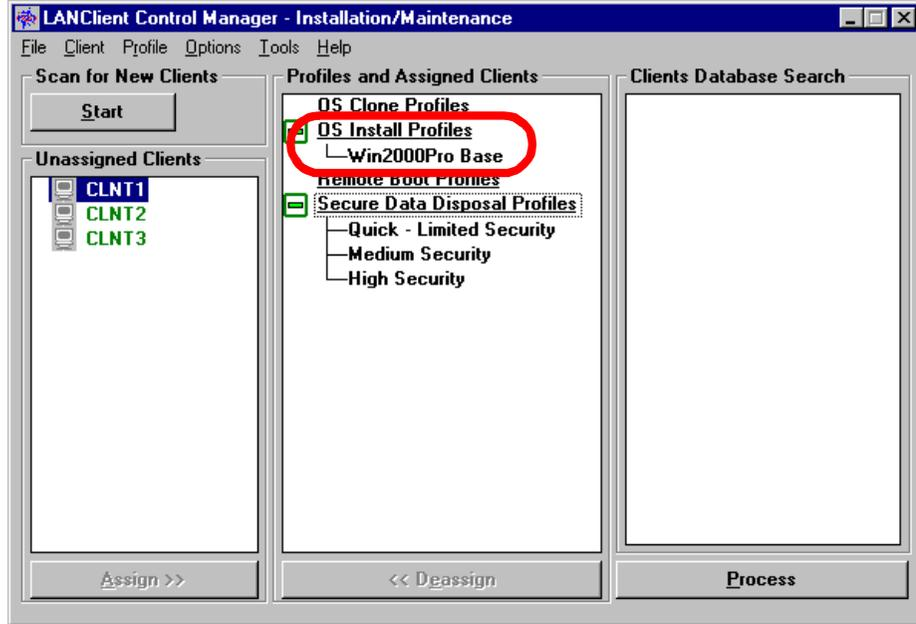

Figure 45. Completed Windows 2000 Professional profile
20. Click **Finish**. You should now have a profile called Win2000Pro Base under OS Install Profiles as shown in Figure 45.